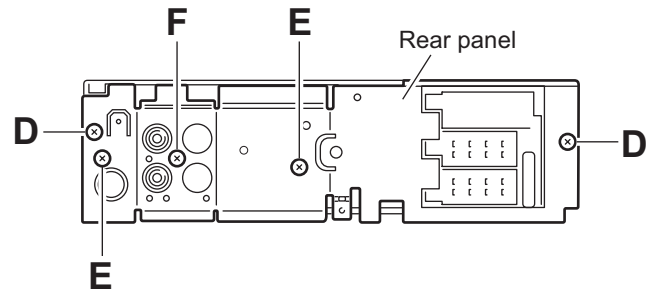

Fig.5
2.1.5 Removing the rear panel (See Fig.5)